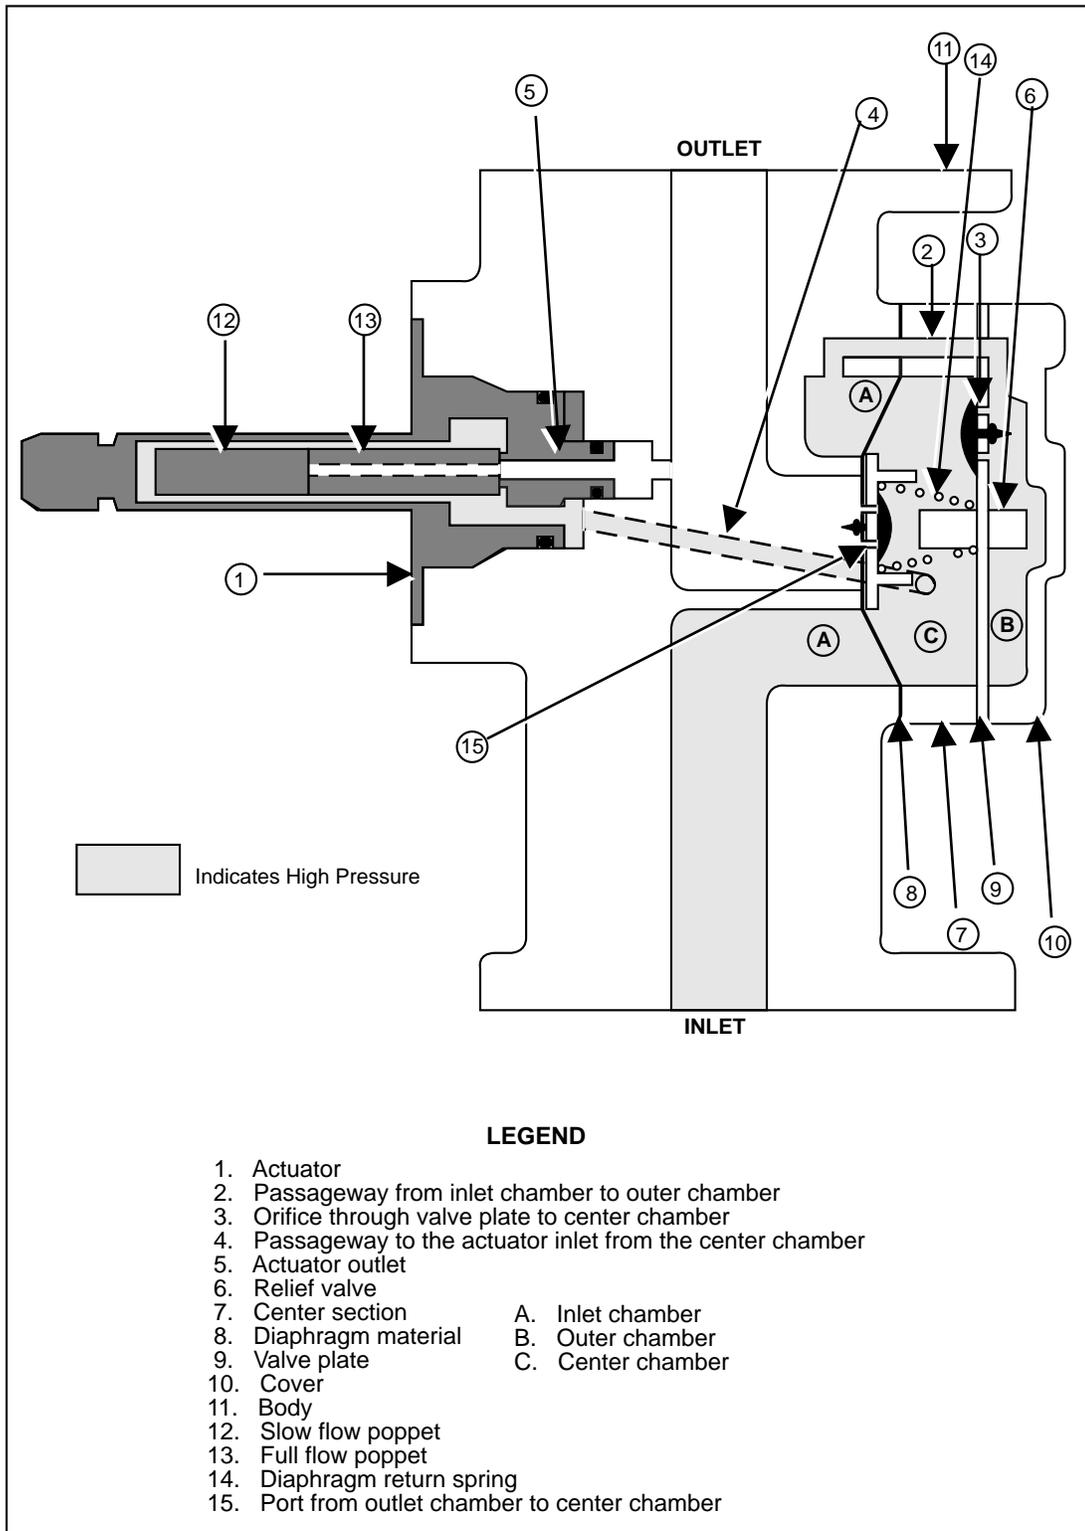

FIGURE 5-1. FLOW CONTROL VALVE "OFF" NO FLOW
5.2.1.1. Flow Control Valve "Off" No Flow (see Figures 5-1 and 5-2)